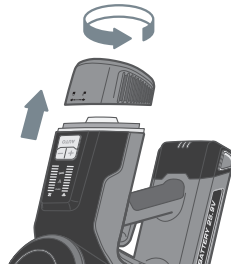

Figure 3.6
1. Rotate the main filter housing counterclockwise to remove it from the back end of the vacuum body [Figure 3.6].